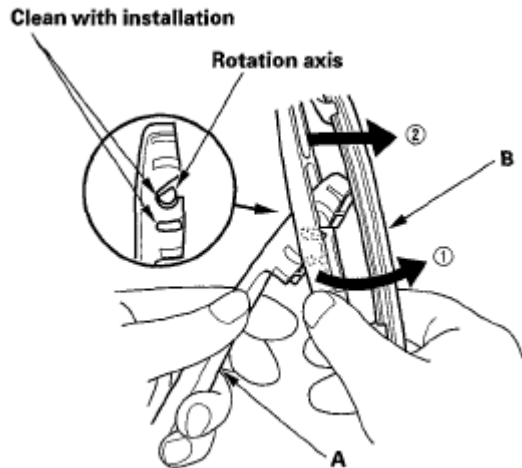

Fig. 22: Holding Rear Window Wiper Arm And Blade Assembly
2. Hold the rear window wiper arm (A) and blade assembly (B) as shown in **Fig. 22**.